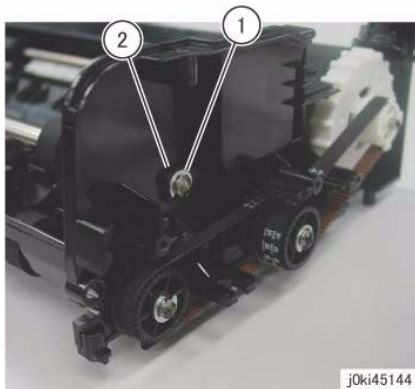

Figure 7 Remove the bearing
17. Remove the bearing at the front. (Figure 7)